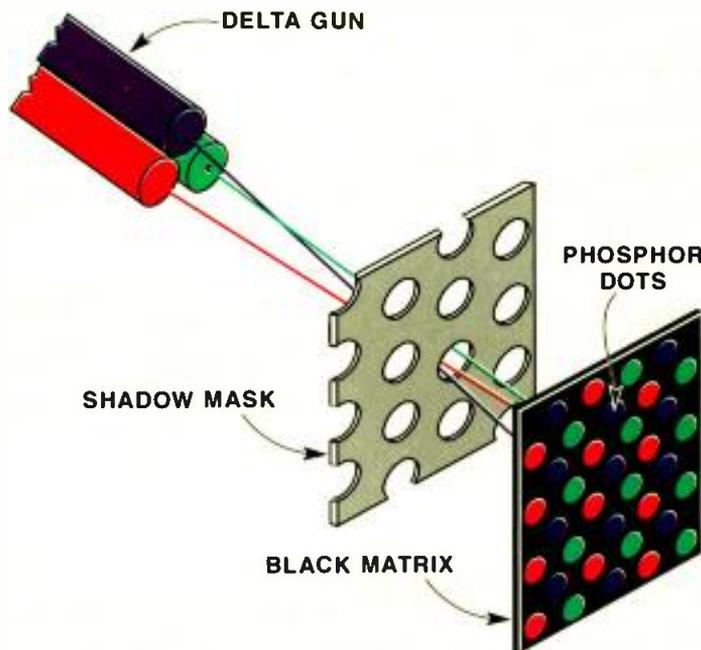
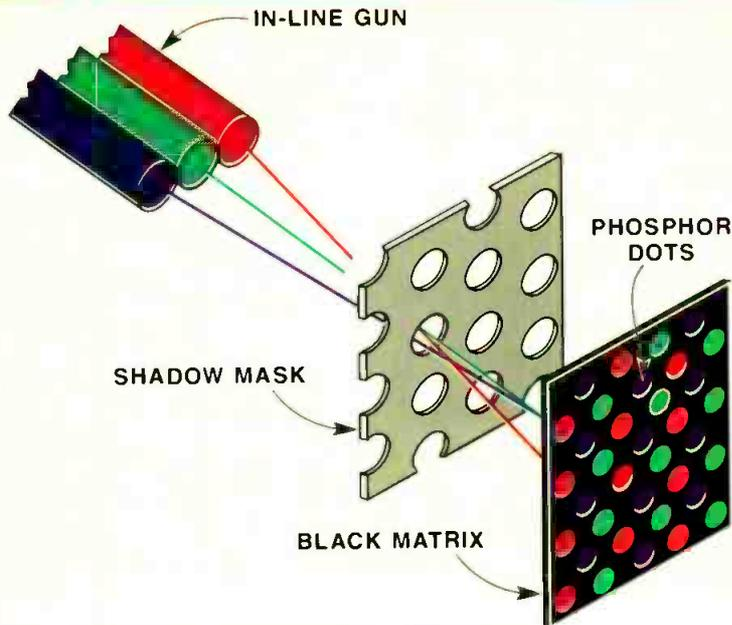
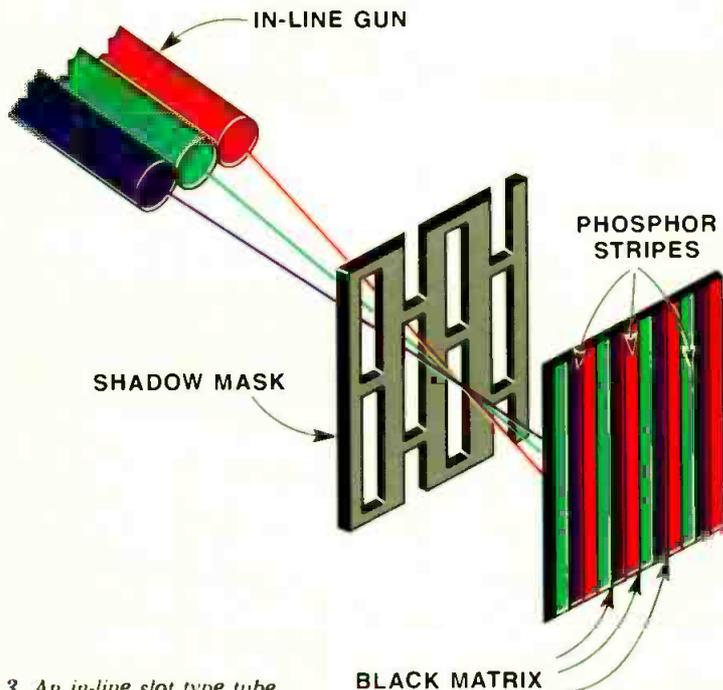

Figure 1. A delta dot system.
Figure 2. The in-line dot tube of a hybrid configuration.
Figure 3. An in-line slot type tube.
Figure 1. The diagrams compare electrostatic (ES) (see A) and electromagnetic (EM) (see B) cathode ray tubes. Although some of their construction features are similar, the deflection sections are significantly different.
Today, four primary types of color CRTs are in use. The most established is the delta dot system, shown in Figure 1. The three sources of electrons are in a triangular array and, after passing through a dot mask, strike triads of phosphor dots that also are arranged triangularly. The in-line dot tube (see Figure 2) places the three sources in a linear array. The dots excited by a beam from these guns are a horizontal linear triple, after the beams pass through a dot mask. Figure 3 shows the in-line slot type tube. The linear array of three guns forms beams that must converge through slots in a mask before they strike phosphor stripes on the faceplate. The fourth type (not illustrated) is the Trinitron, which has three separate cathode and grid 1 elements, but uses common focus and accelerator grids.